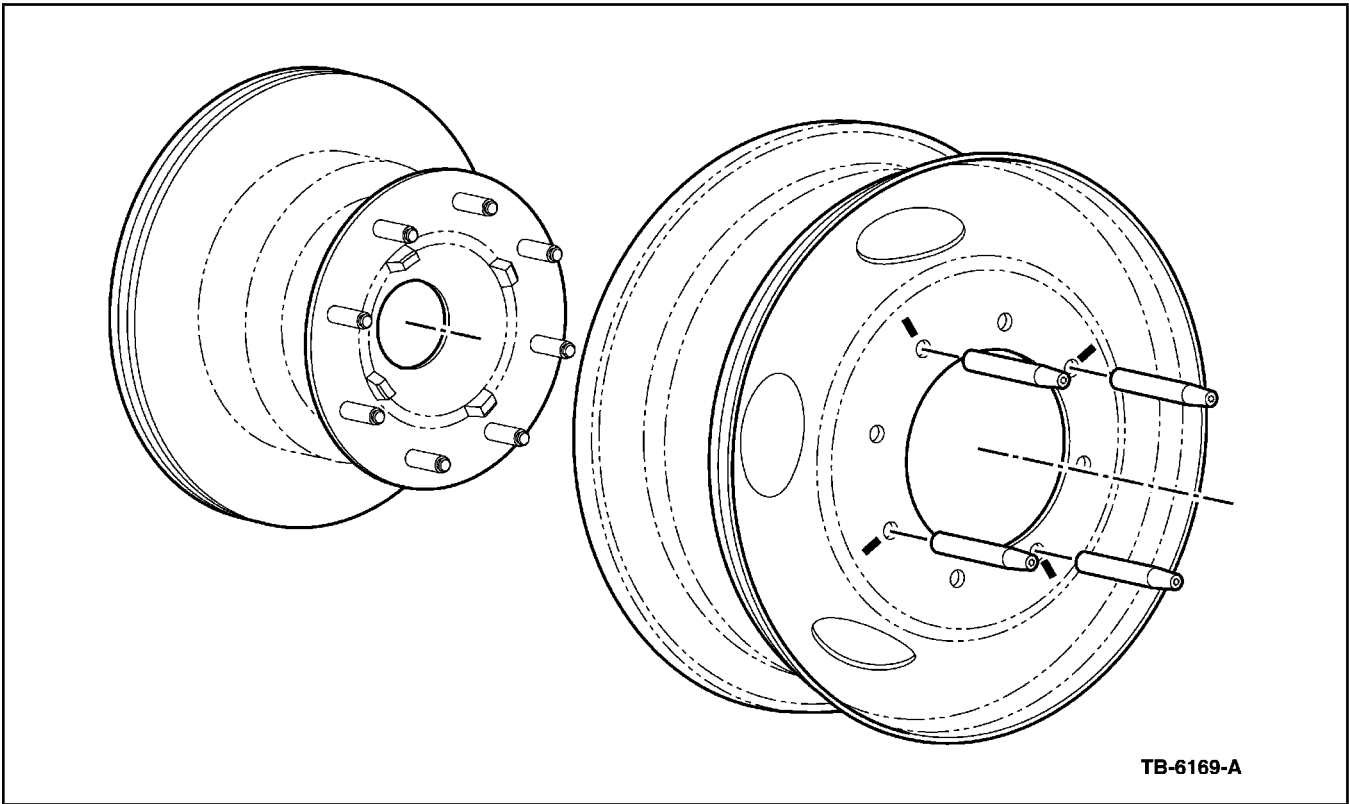
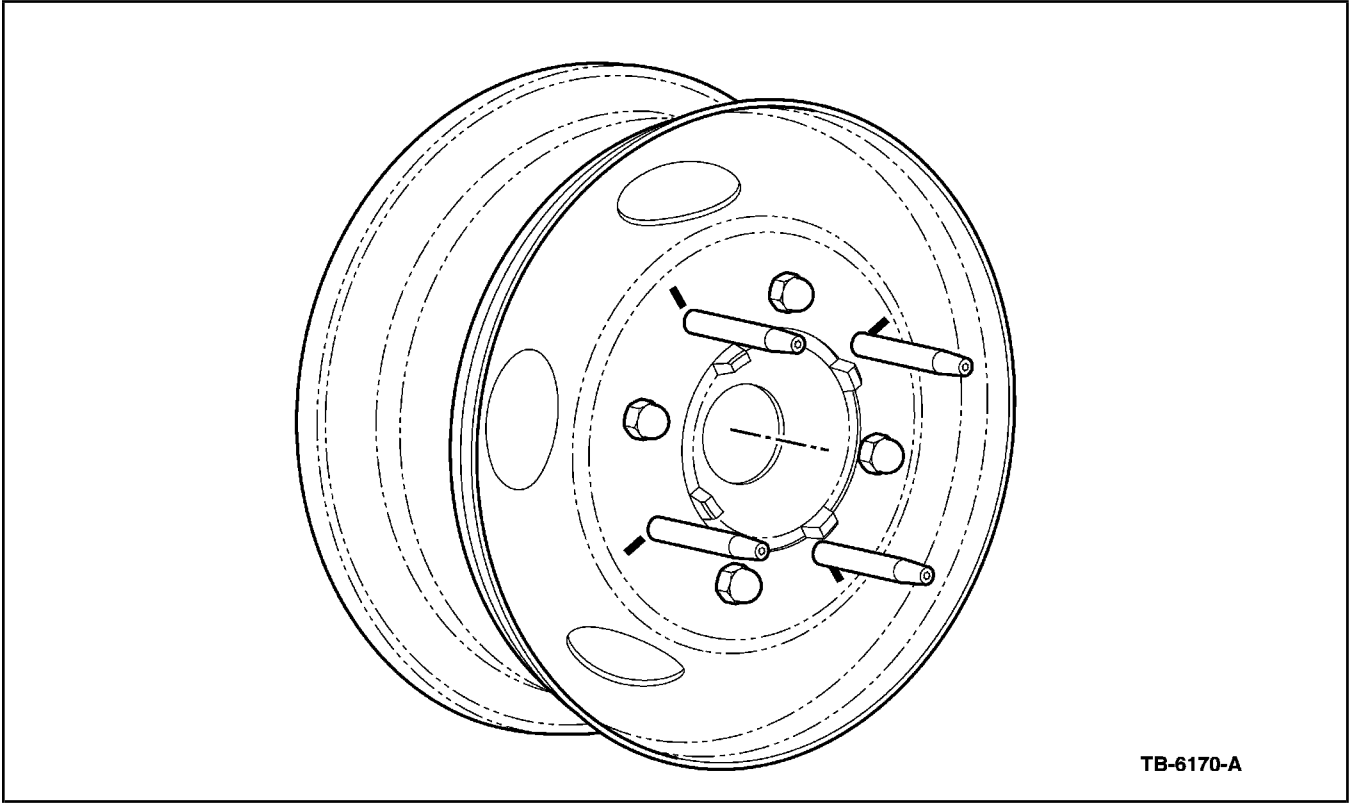

Figure 2 - Article 00-21-9
Figure 3 - Article 00-21-9
- Lowest force variation or tire runout of the six (6) assemblies.
- Lowest indicated imbalance of the six (6) assemblies (as measured without any weights prior to balancing the assembly).
2. Choose four (4) centering pilots (included with the Haweka Flange Adapter Kit) that best fit the wheel lug holes prior to installing the wheel/tire assembly on the hub. Mark the lug holes that will be used for centering as shown (Figure 2).
3. Install the wheel/tire assembly on the hub and install four (4) lug nuts finger tight.
4. Thread the centering pilots onto the lugs and through the wheel holes previously marked as shown (Figure 3). Rotate the wheel as you thread in the pilots to make the installation easier.